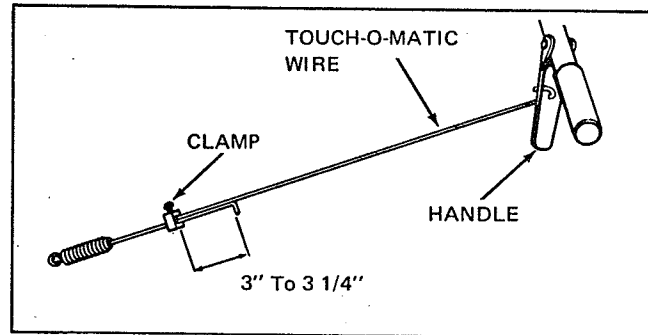

Figure 2
4. Insert the Touch-O-Matic extension wire through the wire clamp. For proper belt tension, adjust as shown in Figure 2.